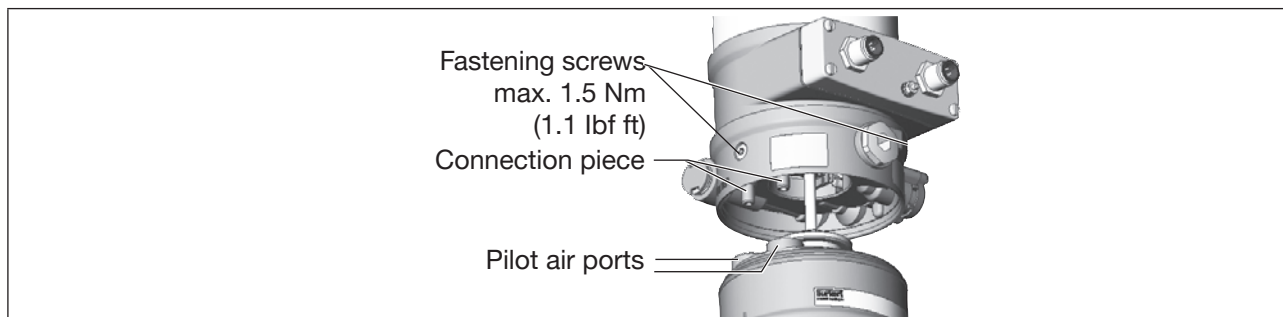

Figure 15: Aligning the pilot air ports
1. Align the pilot air ports of the actuator with the connection pieces of Type 8692/8693 (see Figure 15).